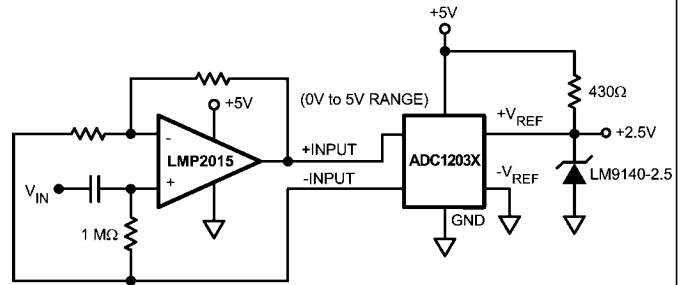

FIGURE 7. AC Coupled ADC Driver
The LMP2015 is a great choice for an amplifier stage immediately before the input of an ADC (Analog-to-Digital Converter) as an ADC driver, whether AC or DC coupled. See Figure 7 and Figure 8. This is because of the following important characteristics:
E) Rail-to-Rail output swing maximizes the ADC dynamic range in 5V single supply converter applications. *Figure 7* and *Figure 8* are typical block diagrams showing the LMP2015 used as an ADC driver.